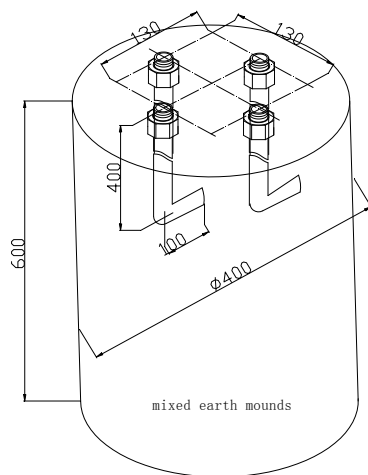

Figure1: manufacture of mixed earth mound
**Figure 1 the fabrication of anchor, lasso and guy cable**
5. Please refer to the national standard, or the European standard, or American standard or figure 1 in this manual to arrange grounding device.